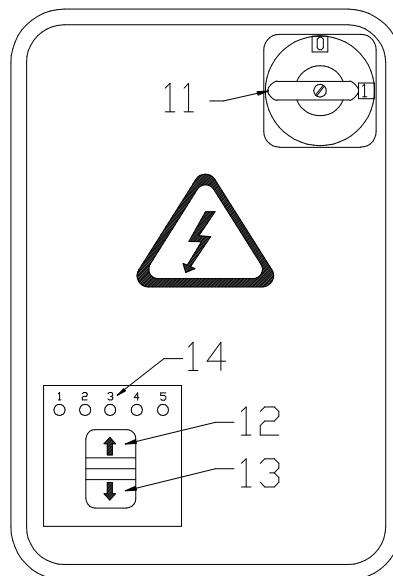

Fig.16
6. BEDIENING EN GEBRUIK (Fig.16)
(Fig.16 ref14)